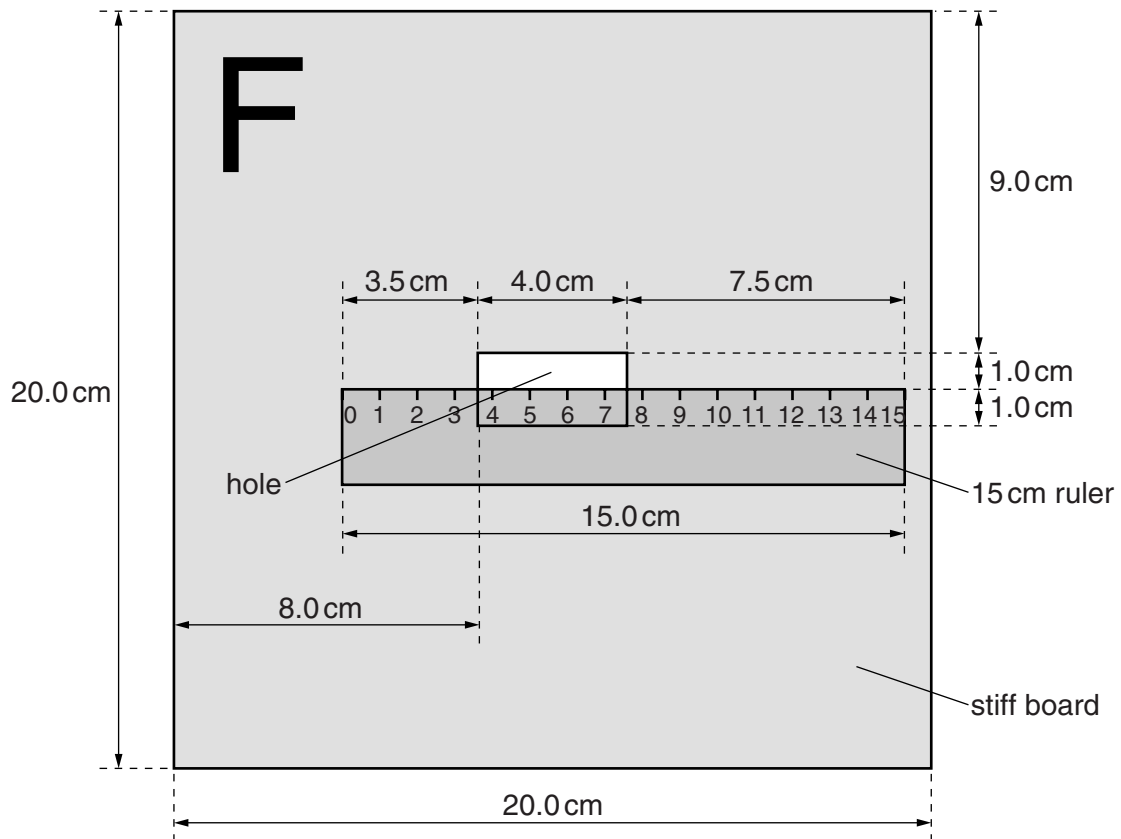

Fig. 2.1
- The ruler must be fixed to the card in the position shown in Fig. 2.1, with 4, 5, 6 and 7 visible within the slit.